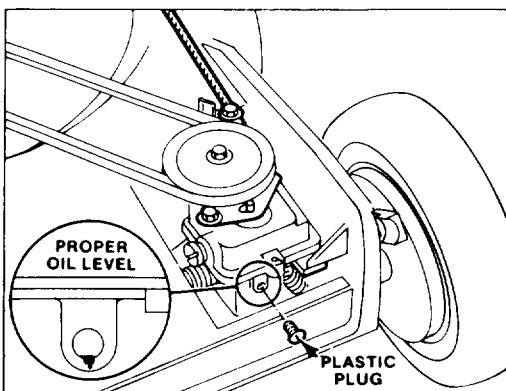

Figure 18
2. CHECKING GEAR OIL LEVEL (Fig. 18) – Position mower on level surface and clean around plastic plug. Remove plastic plug and watch for oil to ooze out of hole. If gear oil oozes out, quickly install plastic plug because oil is at proper level. If oil does not flow, add gear oil: see step 3.